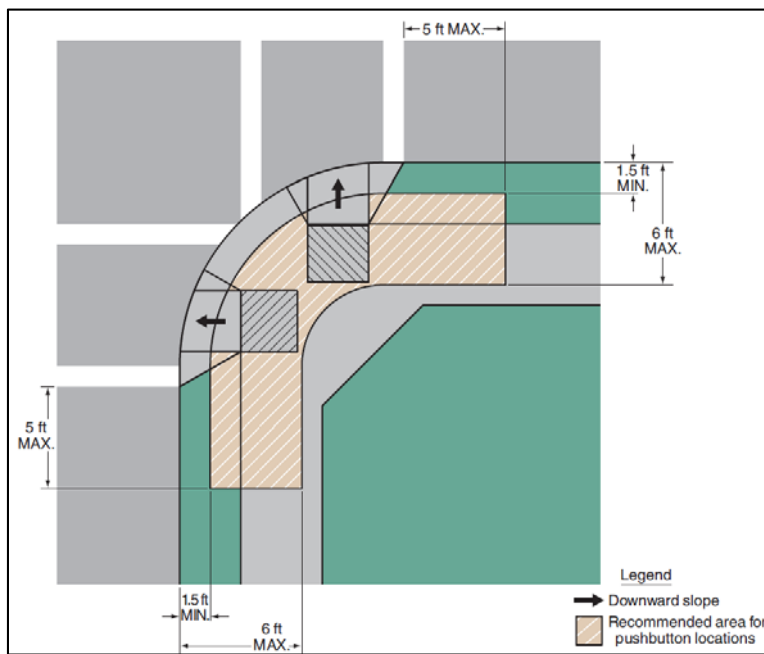

Figure 16 – Push Button Placement
- Push buttons are located between the edge of the crosswalk line farthest from the center of the intersection and the side of the curb ramp (if present) (see **Figure 16**)
- Distances from the outside edge of the crosswalk line farthest from the center of the intersection and the face of the push buttons do not exceed 5ft (see **Figure 16**)
- Push buttons are located between 1.5 ft. – 10.0 ft. from the face-of-curb, shoulder, or pavement (see **Figure 16**)